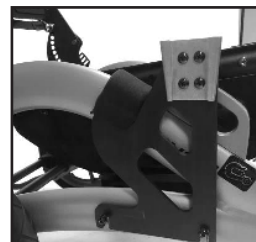

Fig. 115
3. Align left and right slots of LTV vent holder with left and right bolts on left hand side of frame. Fig. 115